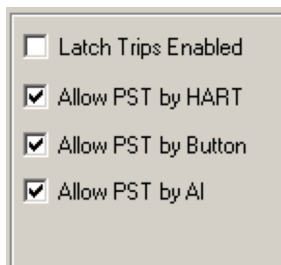

Figure 238 - Allow PST Trigger
2. Click the **Configure** tab and select the PST trigger type (s) (*Figure 238*).